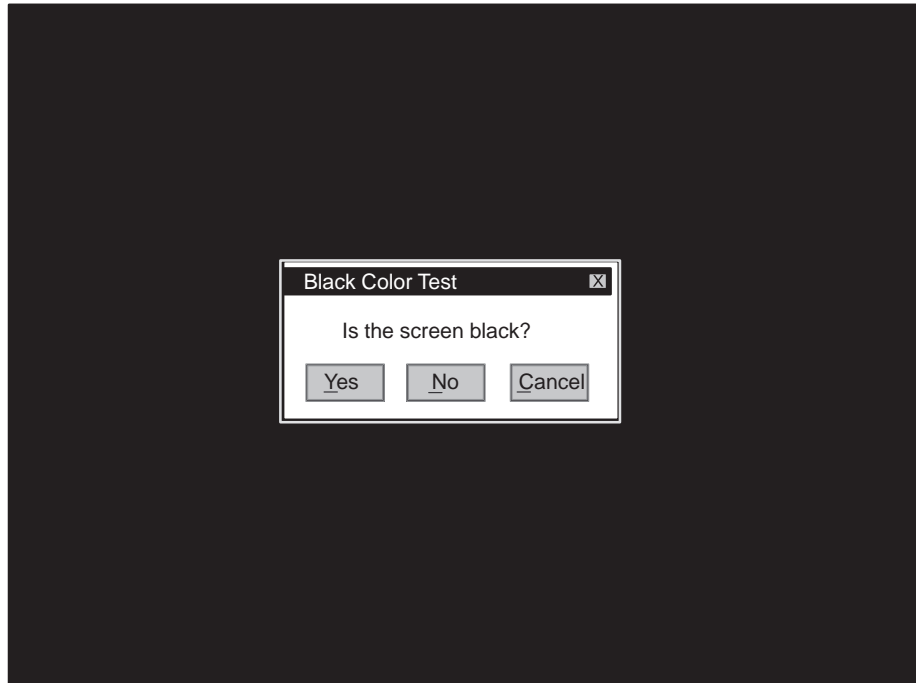

Figure 4-7: Black color test screen
4. Verify that the Black Color Test appears on the measurement set display (see Figure 4-7).